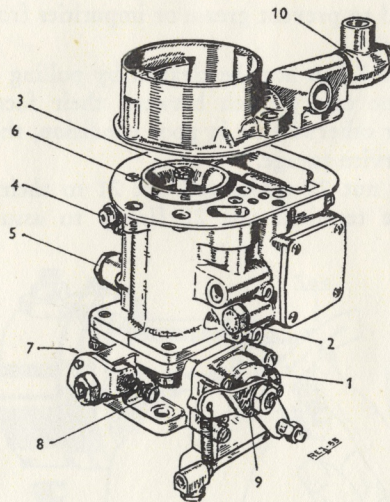

Fig. 17. Carburetor
Idling adjustment should always be carried out when the engine is warm. The produce is as follows and the number refer to fig. 17.
2. Adjust the engine to run evenly by means of the adjusting screw 7. This is achieved when the screw is opened about 2 turns. Note, that this screw cannot be seen in fig. 17.